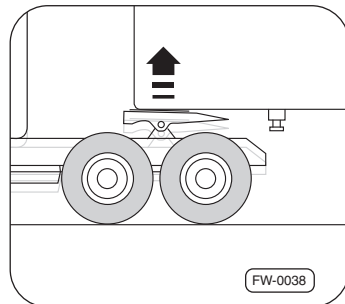

Fig. 12 · Raising the air suspension system
7. Lift the fifth wheel with help from the air suspension system until the semi-trailer is slightly raised Fig. 12.